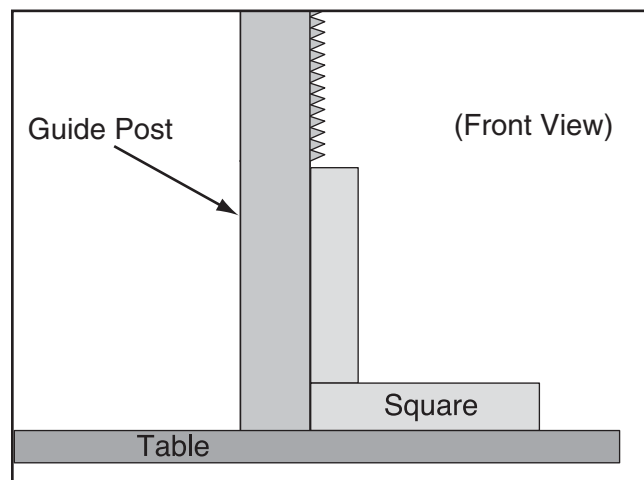

Figure 103. Example of checking guide post squareness.
6. Place a machinist's square on the table next to the right hand side of the guide post, as shown in **Figure 103**.